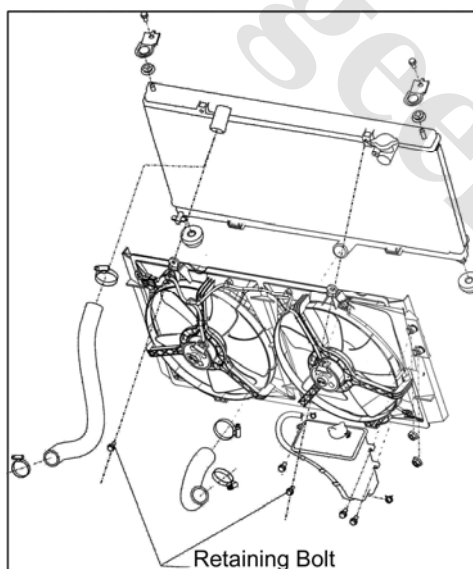

Figure 6-37
**IX. Removal and repair of condenser fan (Figure 6-37)**